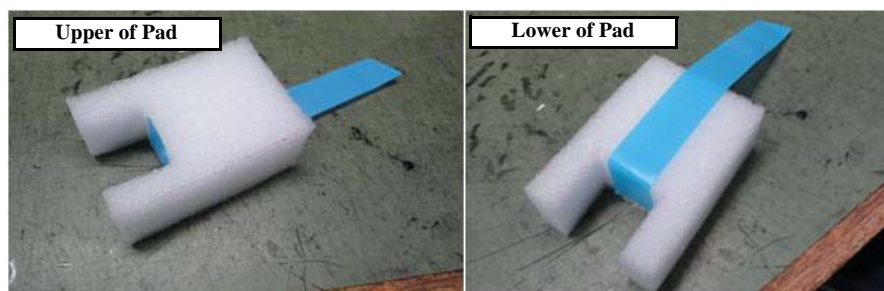

Figure 1-3. Attaching the strong tape to the front tray
1. Attach the strong tape to the front tray support pad shown in Figure 1-3.